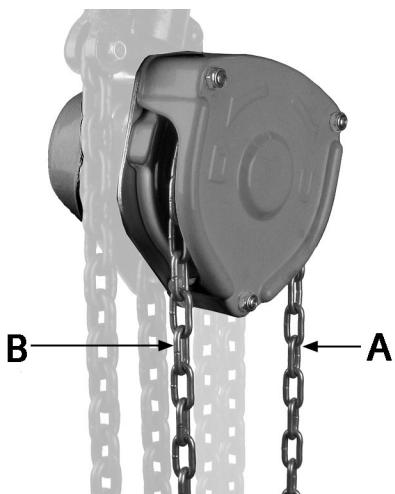

Figure 5
To raise load, pull right side of hand chain (A, Figure 5) so that wheel turns clockwise.
To lower load, pull left side of hand chain (B, Figure 5) so that wheel turns counterclockwise.
1. Remove *split pin* (A) and *pin stopper* (B) on the *chain anchor* C, allowing the end of the load chain to fall free.
2. Pull the *hand chain* (Figure 5) until load chain is completely removed from gear assembly.